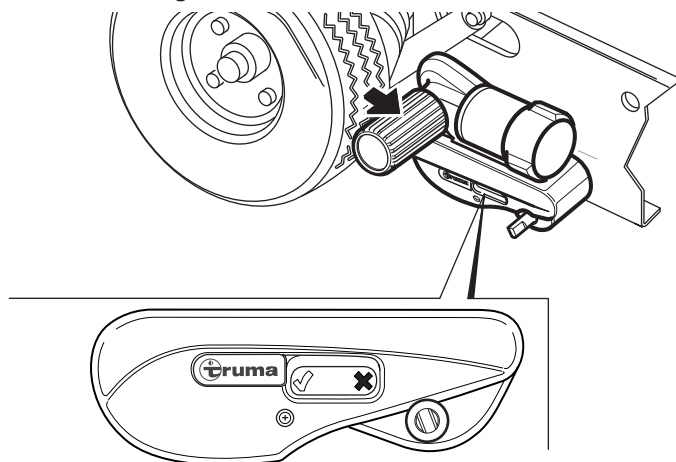

Fig. 31
- ▶ Disengagement was successful if the position indicator on the manoeuvring system's housing points to ✘ (Fig. 31).